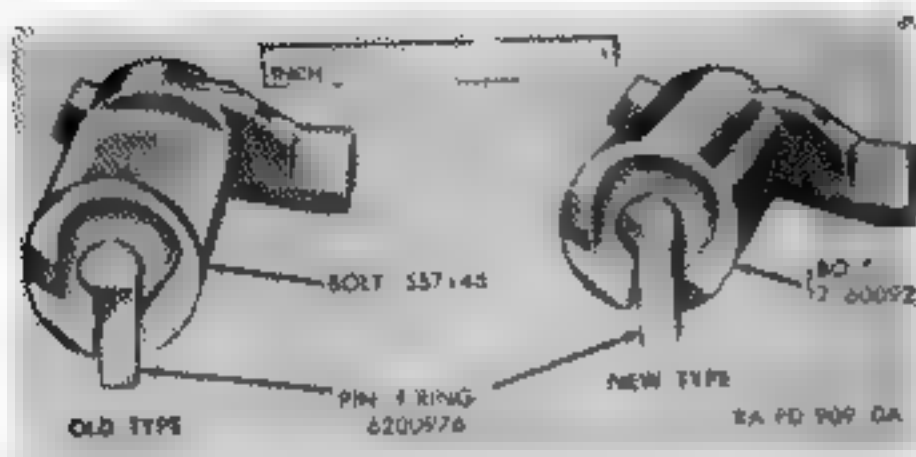

Figure 61. Bolt and firing pin.
h. Check to assure that only the new type of modified type firing pin (Fig. 61) is used. The old type pins can be modified by depot maintenance if the quantity involved warrants the work required to accomplish this (Fig. 62) Function test bolt and firing pin.